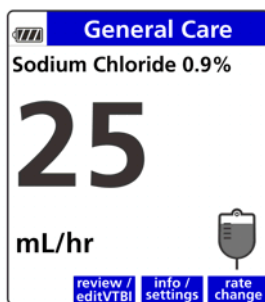

Figure 42. Infusion Running Screen.
5. If the Pump is running, press **STOP**. See Figure 42. The Pump Stopped screen will appear.